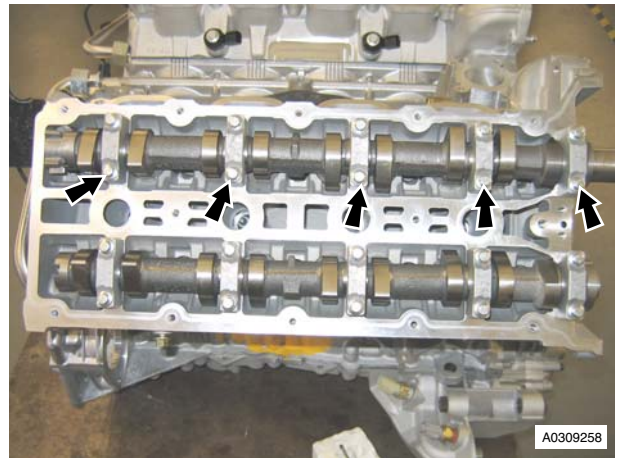

Figure 2
5. Loosen the bolts that attach the ten exhaust camshaft bearing caps gradually, in steps (refer to Figure 2 - Right side shown).